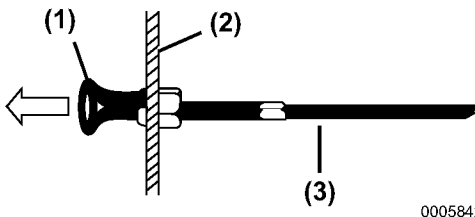

Figure 9
4. Pull the engine stop knob **(Figure 9, (1))** out and hold continuously while cranking.